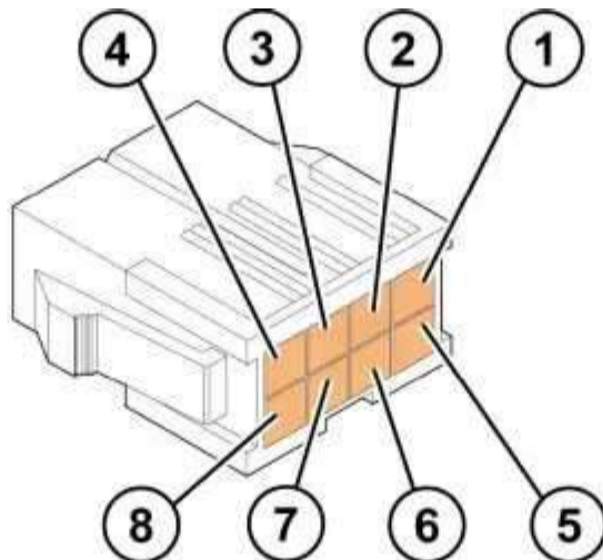

Figure 54. Accelerator pin locations
1. Connect the accelerator wires to the accelerator connector. The pin locations from 1 to 3 are marked on the connector with lines and help you in determining the rest of the pin locations. Details of the accelerator wires and their pin locations are available in Figure 54 and Table 3 below.